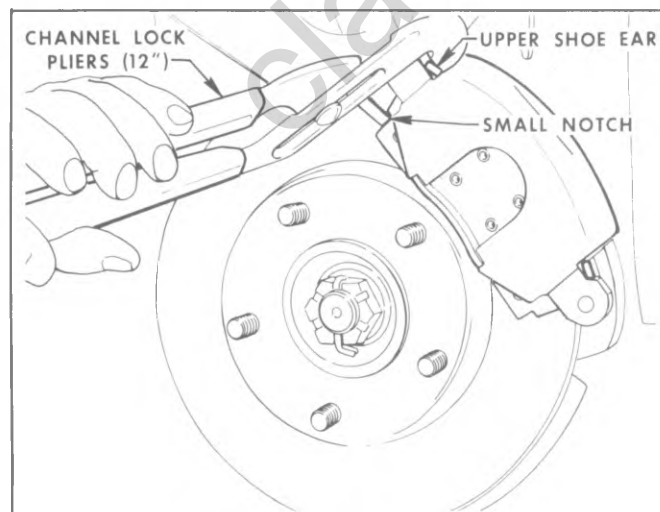

Fig. 5-30—Clinching Outboard Shoe
9. Clinch upper ears of outboard shoe by positioning channel lock pliers with one jaw on top of upper ear and one jaw in notch on bottom of shoe opposite upper ear (fig. 5-30).